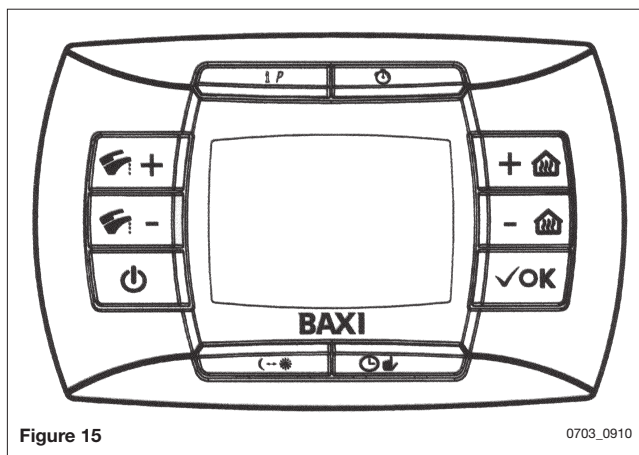

Figure 15
- press and hold down  and then press  (see figure 15).